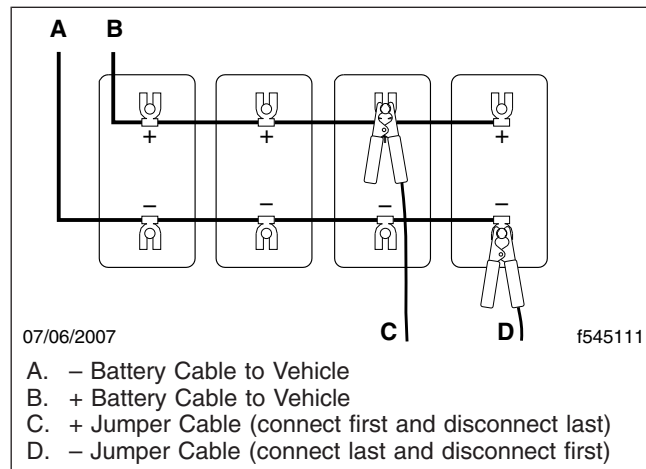

Fig. 24.5, Jumper Connections
3. Connect the positive (+) jumper cable to the positive (+) battery post on the Cascadia needing the jump start, then connect the other end of the positive jumper cable to the positive battery or jump start post of the vehicle providing the jump. See Fig. 24.5.